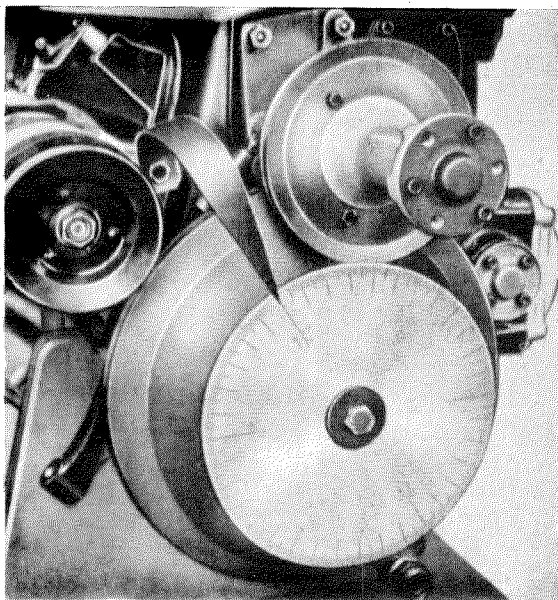

Fig. 01—3/39
1. If the engine is not installed in the vehicle, a suitable graduated disk divided into 360° is fixed to the crankshaft and a pointer is fixed to the crankcase (see Fig. 01—3/39).
2. If the engine is installed in the vehicle, Disk 180 589 07 23, divided into 360°, should be fixed to the camshaft (see Fig. 01—3/40).